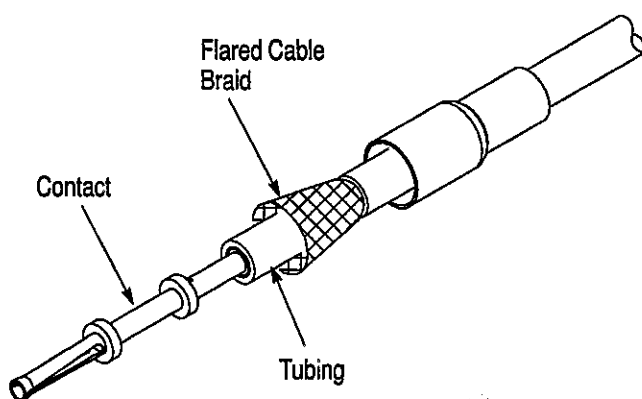

Figure 4
2. Flair braid and slide tubing onto cable dielectric beneath braid for RG-179/U and RD-179 cable only. Tubing is not used with conformable cable. See Figure 4.